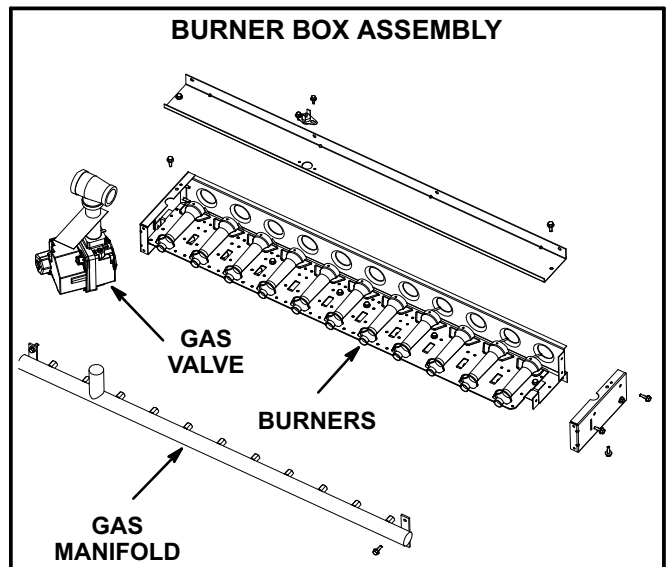

FIGURE 24
- 3- Remove screws securing burners to burner support and lift the individual burners or the entire burner assembly from the orifices. See figure 24. Clean as necessary.